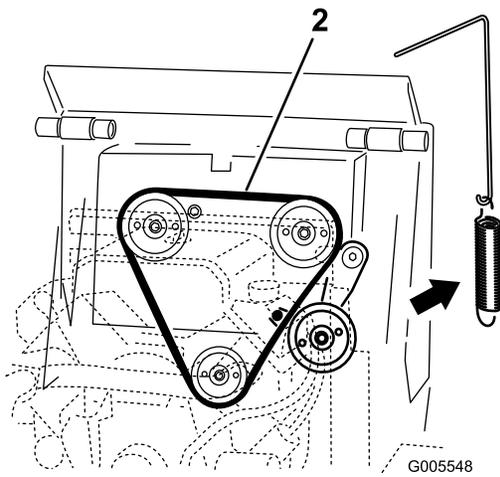

Figure 45
4. Remove the idler pulley spring from the idler pulley assembly (Figure 45).
6. Install a new drive belt around the three pulleys (Figure 45).